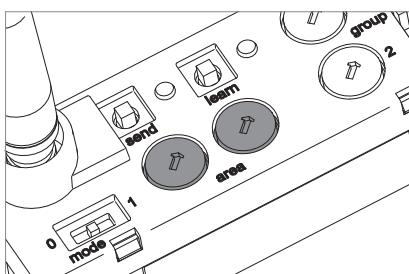

Fig. 7: "area" rotary coding switch.
- ▶ Set both "area" rotary coding switches to the desired area address, see Fig. 7.